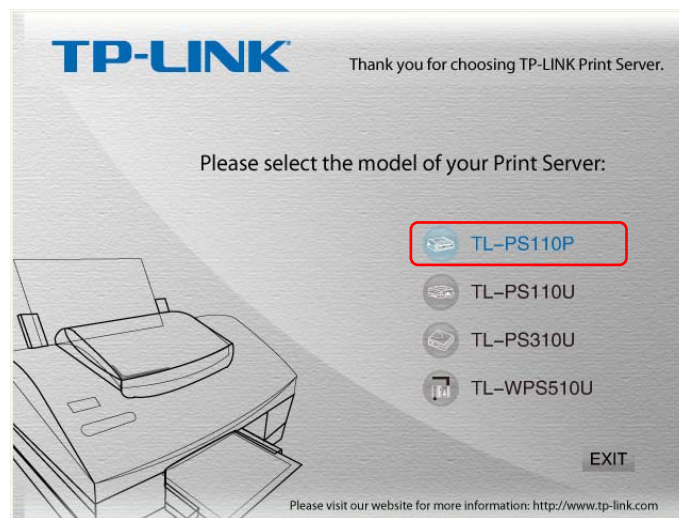

Figure 3-1
1. Insert the setup CD into your CD-drive. The autorun program will be started as shown in Figure 3-1. Select the model (**TL-PS110P**) of your print sever.